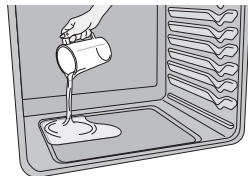

Figure 26: Add 1 cup of tap water
3. Pour 1 cup of tap water onto the oven bottom. (Figure 26) Close oven door.